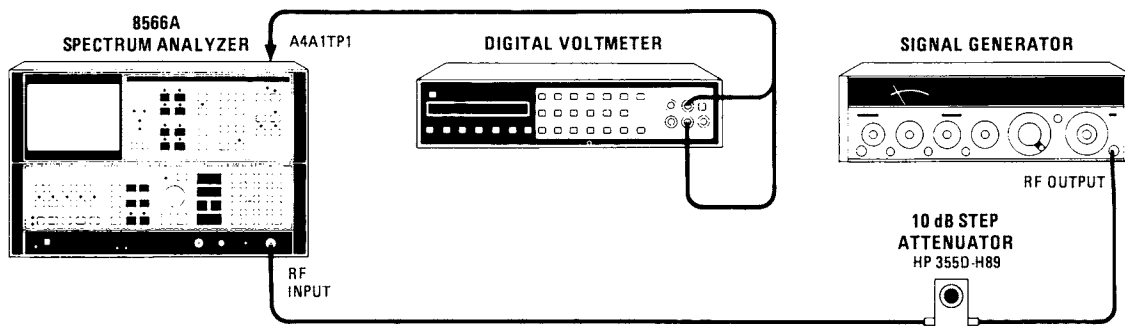

Figure 5-19. Log Amplifier Adjustments Setup
1. Position instrument upright as shown in Figure 5-19 with top cover removed.